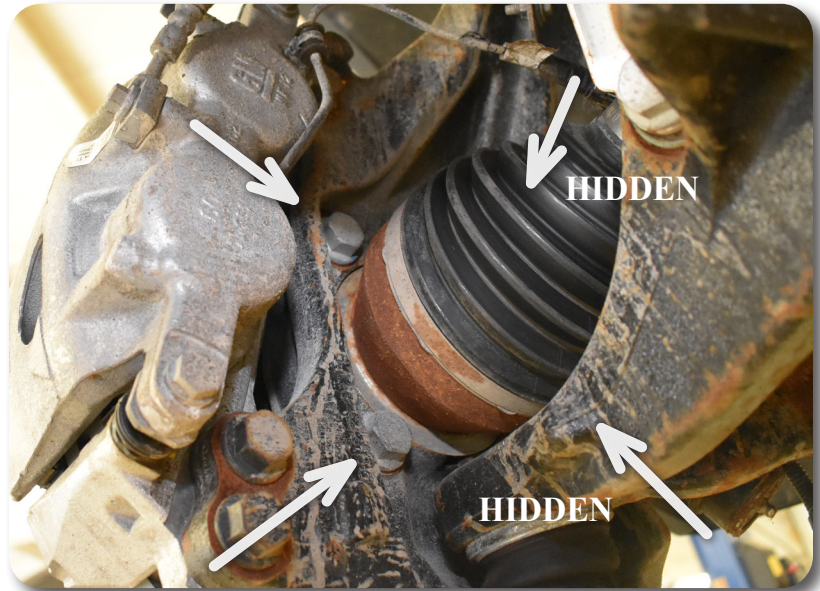

Figure 12
18. Locate and remove the four hub bearing assembly bolts **Figure 12**. The bolts are accessed from the back side of the steering knuckle. Remove the hub bearing assembly and dust shield from the steering knuckle. Save for later installation.